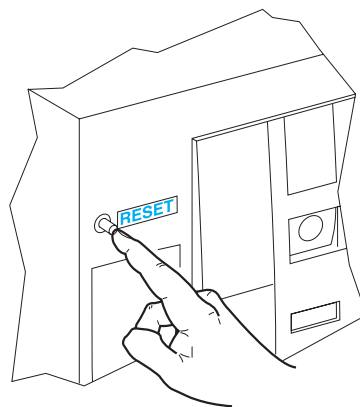

Fig. 2
■ If the device tripped due to an electrical fault, reset the indicator on the control unit by pushing it (see Fig. 2).